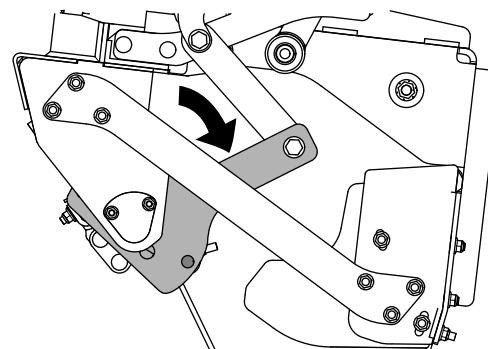

Figure 17
9. Adjust the tilt of the multi-tool carrier as needed (Figure 17).